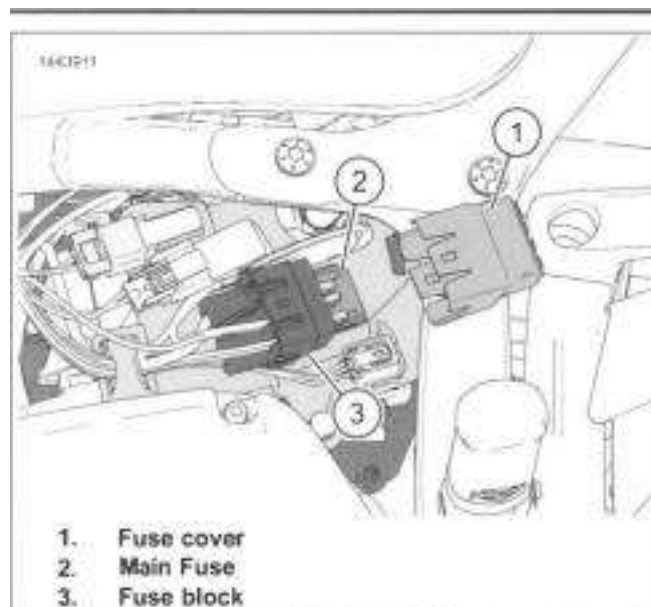

Figure 7-3. Fuse Block
3. See Figure 7-3. Remove fuse cover (1).
4. Remove main fuse (2).
1. See Figure 7-3. Install main fuse (2).
2. Install fuse cover (1).